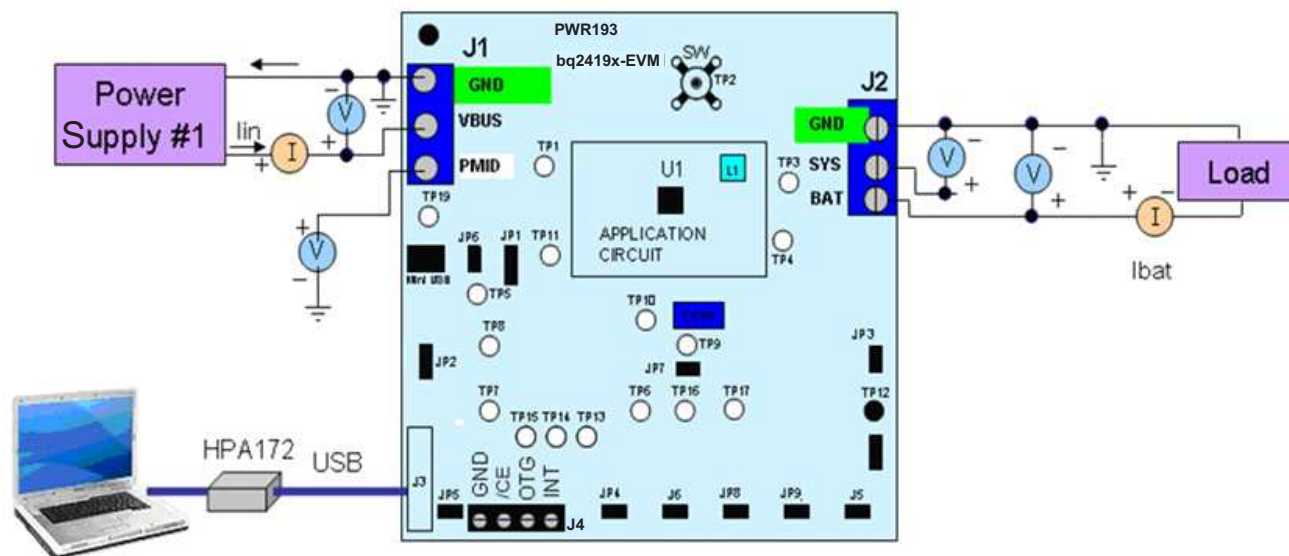

Figure 2. Original Test Setup for PWR193 (bq24195/L EVM)
4. Turn on the Load, set to constant voltage mode and output to 2.5 V. Turn off (disable) Load. Connect Load in series with a current meter (multimeter), ground side, to J2 (BAT+ and GND) as shown in Figure 2.
Figure 2 shows the test setup for PWR193.